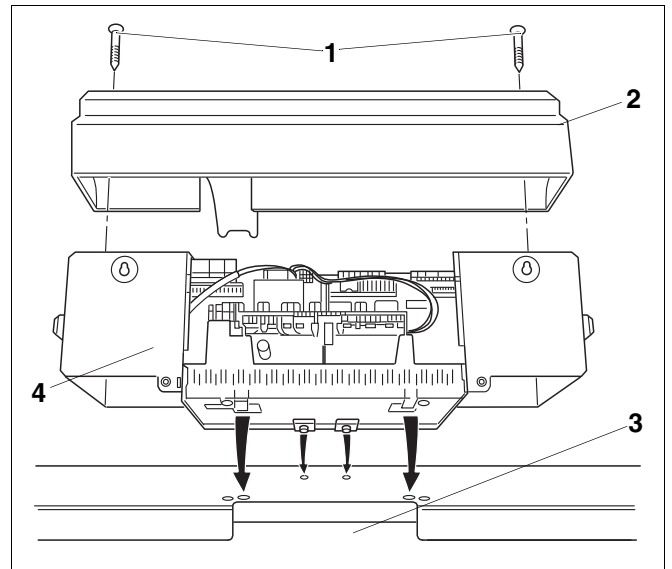

Fig. 26 Opening and positioning the Logamatic 4000 control system
- Slightly tilt the control unit forward and set down, so that the insertion hooks at the front lead into the oval drilled holes. Push the control unit forward and tilt down at the rear, until both flexible hooks engage on the r.h. and l.h. side (arrowed in Fig. 26).
- Put terminal cover in place and screw tight with 2 self-tapping screws (Fig. 26, page 33).